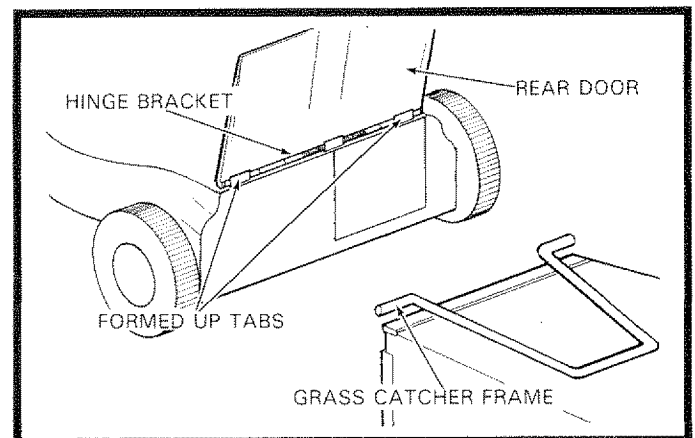

FIG. 3
- Lift the rear door on the lawn mower housing and place the grass catcher frame onto the formed up tabs on the rear door hinge bracket (See Fig. 3).